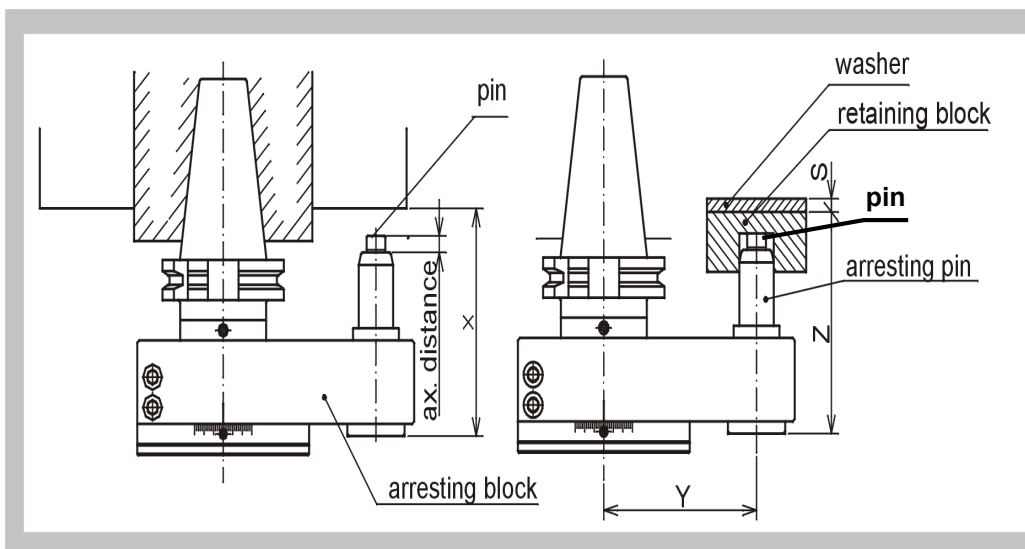

Fig. 15
- The distance between the axis of the hole in the block and the spindle axis is specified by the dimension „Y“ in the figure 15. The standard arresting arm is supplied with Y = 65, Y = 80 or Y = 110 mm.